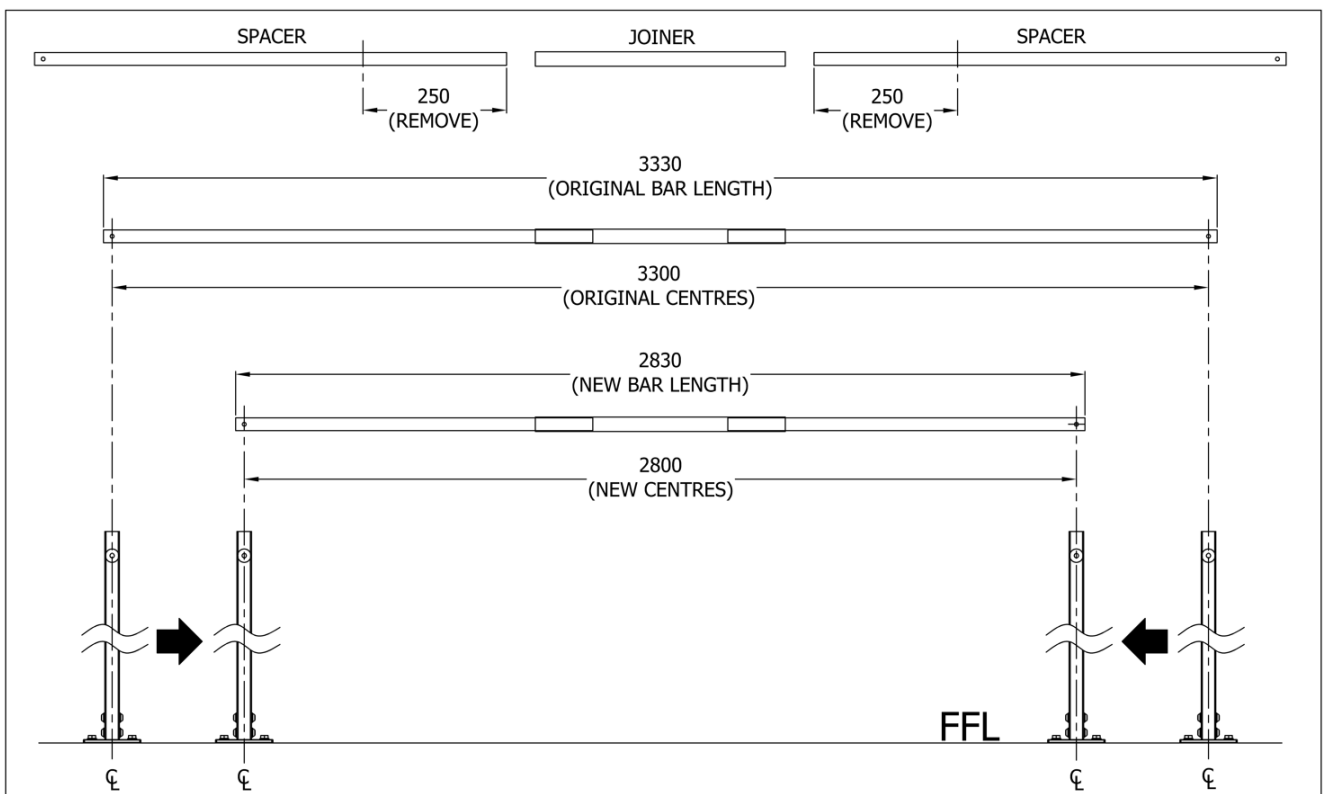

Fig 4. Reducing the width of your 3.3m GMK.
2. Using a hacksaw or angle grinder remove 250mm from each of the two rear spacer bars. ($500 \div 2 = 250\text{mm}$). (Fig 4).